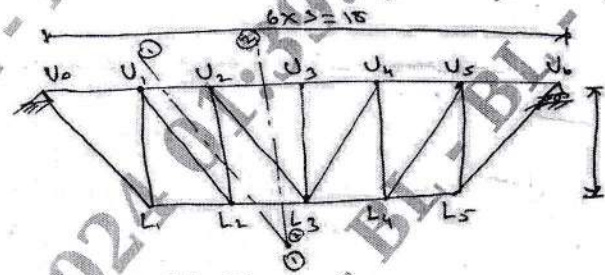

Fig.Q2
- 2 Determine the maximum forces in the members U_2L_2 , U_3L_3 and U_2U_3 of the truss shown in Fig.Q2, when an uniformly distributed load of 60 kN/m, longer than the span, moves from left to right on top chord. Draw the influence line diagram only.